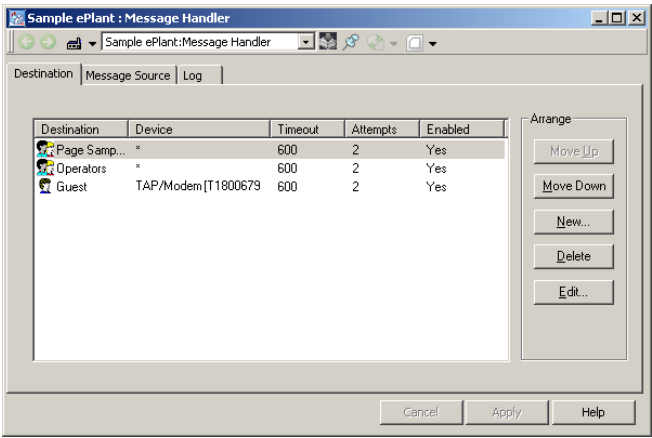
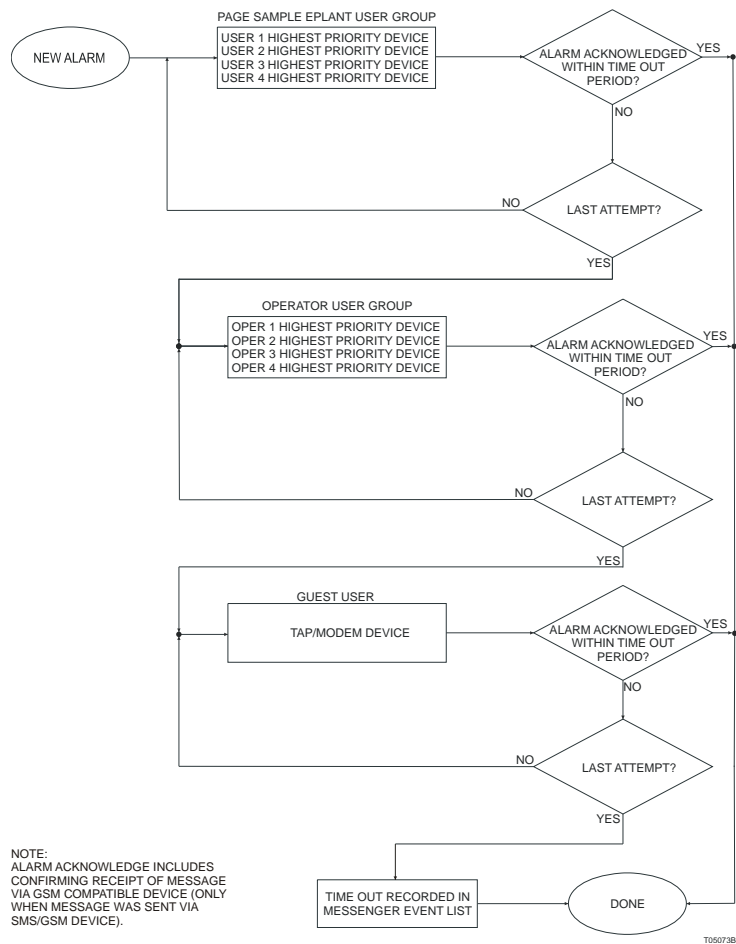

Figure 124. Configured Destinations Tab
Figure 125. Sequence of Events for Message Handler in Figure 124
- 21. Figure 124 shows a completed message destination configuration with two user groups (Page Sample ePlant and Operators) and a TAP/Modem Device for an individual user (Guest) configured.
- For example, using the configuration shown in Figure 124, the sequence of events is illustrated in Figure 125.